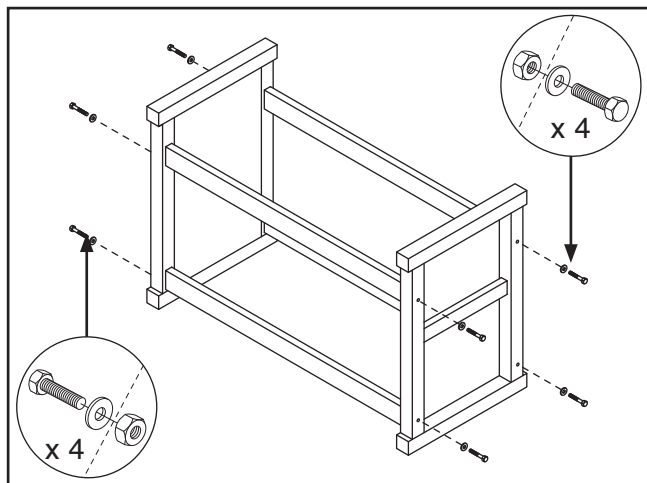

Figure 5. Attaching cross beams.
2. Attach (4) cross beams to workbench legs with (8) M12-1.75 x 120 hex bolts, (8) 12mm flat washers, and (8) M12-1.75 hex nuts (see **Figure 5**). Do not fully tighten.